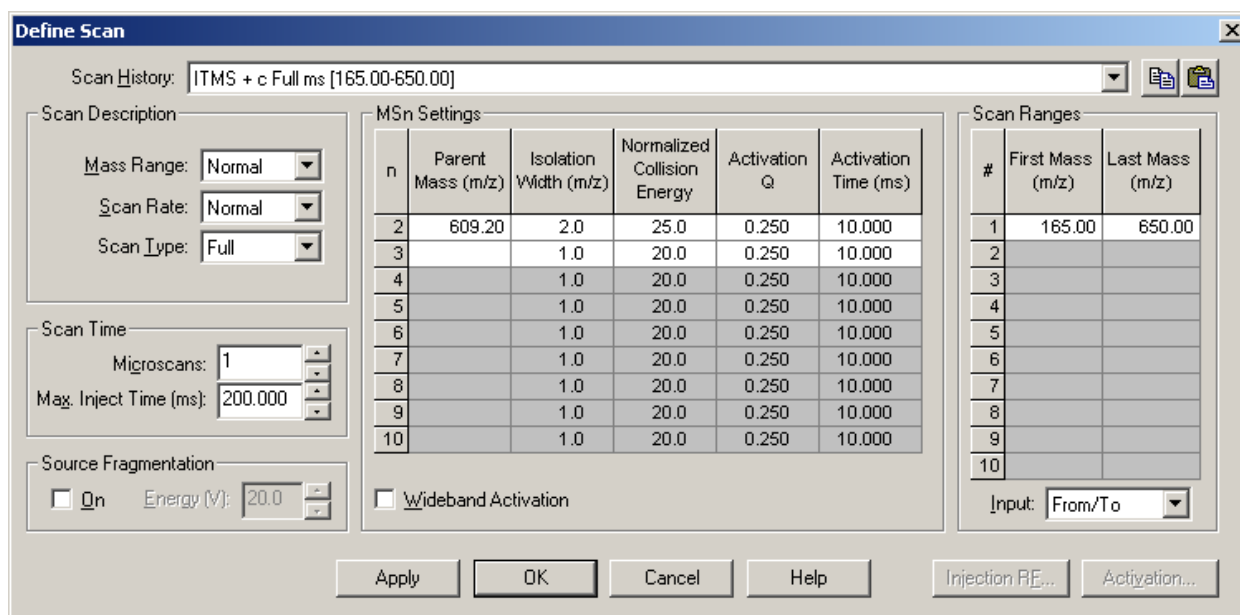

Figure 5-3. Define Scan dialog box, showing typical settings for acquiring MS/MS data in the Full scan type on reserpine
9. In the Tune Plus window, observe the mass spectrum of the product ions of reserpine (or your analyte of interest). If necessary, increase the value for the Normalized Collision Energy in increments of 5% to cause the clear display of product ion mass spectrum. (After each change in value, click on **Apply** to implement the change.) See Figure 5-3.